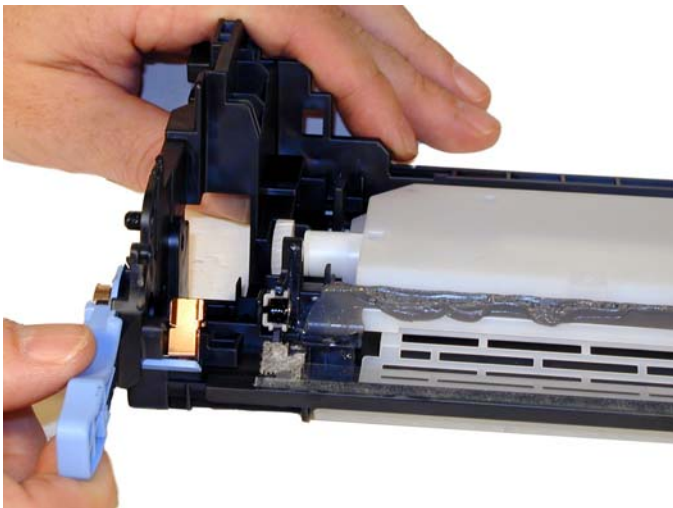

Figure 30
16) Check the grey wiper blade seal, if it is sticky, it can be re-used. If it is not, and you cleaned it with alcohol, it must be removed, and replaced with a good silicon sealer. (See supplies needed at start of article). See **Figure 30**